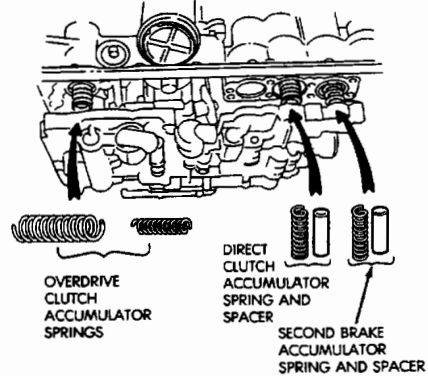

Fig. 15 Accumulator Springs
- (7) Lower valve body and remove overdrive clutch accumulator springs; direct clutch accumulator spring and spacer; second brake accumulator spring and spacer (Fig. 15)